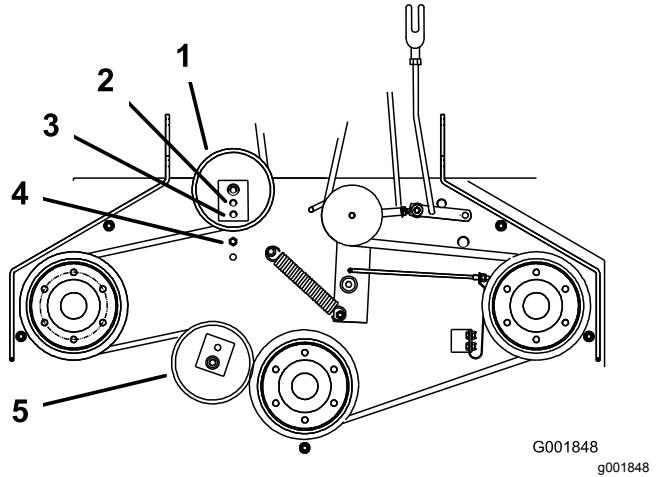

Figure 47
6. If there is no adjustment left in the turnbuckle and the belt is still loose, position the rear idler pulley in the middle or front hole (Figure 47). Use the hole that gives the correct adjustment.
7. When the idler pulley is moved the belt guide must be moved. Move the belt guide to the front position (Figure 47).